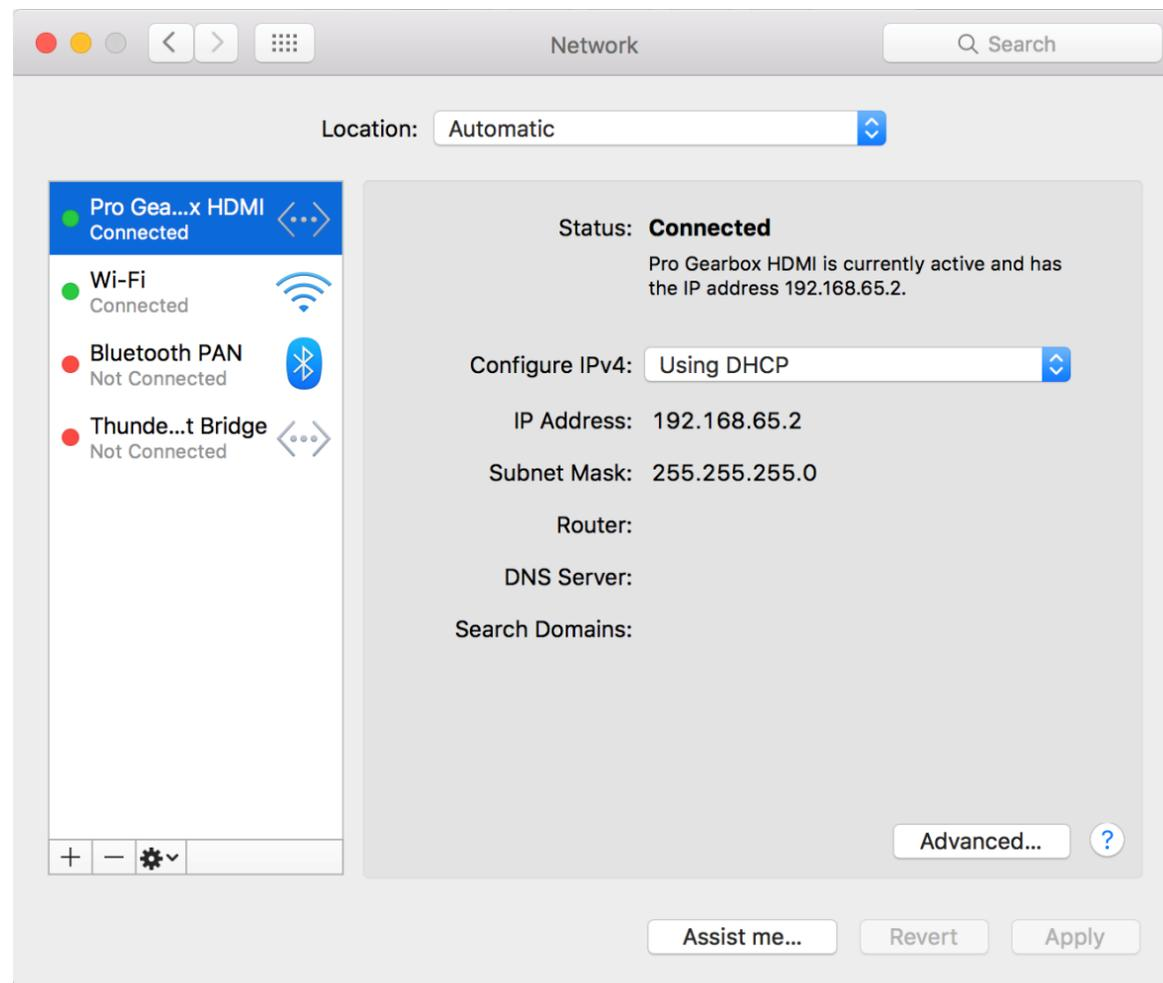

Figure3. Mac
- Choose **Pro Gearbox HDMI**, and check the **IP Address**, as shown in Figure3. Mac.